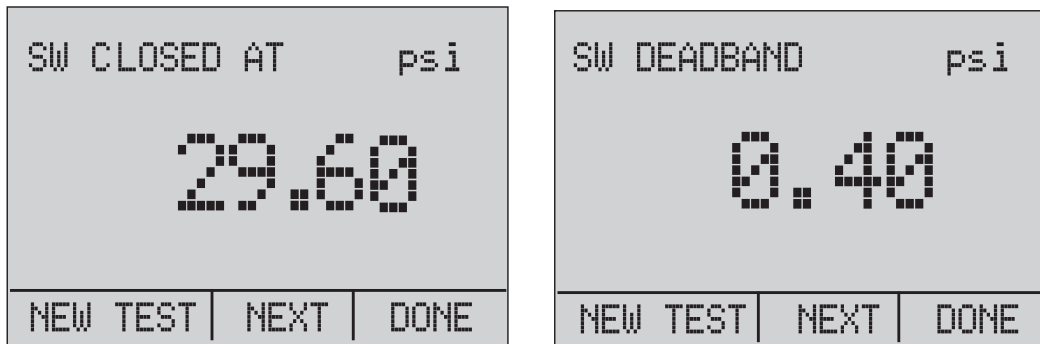

Figure 24. Switch Test and Deadband Results
9. Select the **"NEXT"** option to show the pressure at which the switch closed and the deadband. See Figure 24.